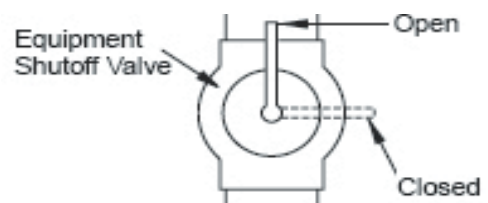

Figure 15 - Equipment Shutoff Valve
1. Open equipment shutoff valve (see Figure 15, page 13).